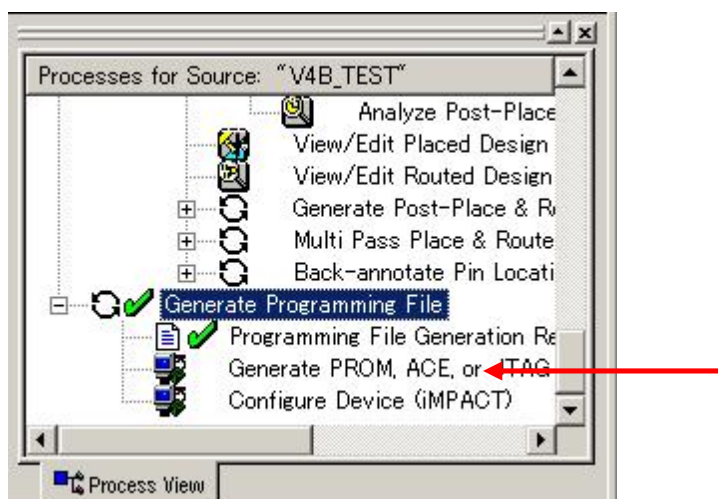

Figure.15
2) On Project, double-click Generate PROM, ACE or JTAG File to start up iMPACT or iMPACT in standalone. See Figure.15.